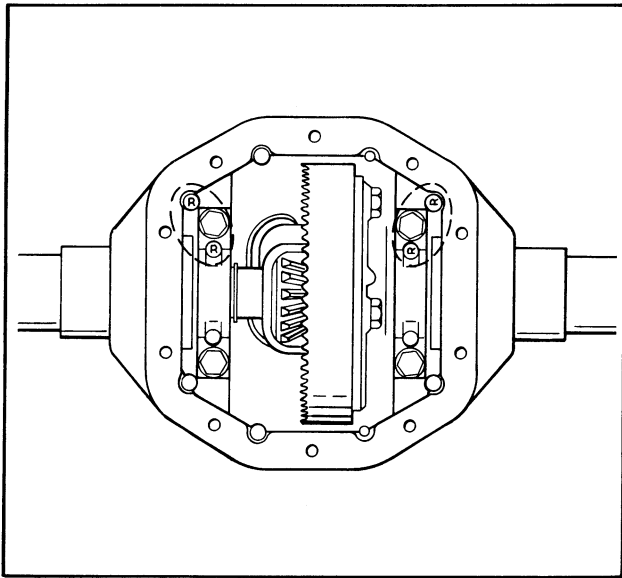

Figure 34 - Bearing Cap Identification
- e. Remove differential bearing cap bolts (38). Bearing caps are marked for location identification along with the carrier. See Figure 34. When reassembling, the caps must be installed in their original position. Remove bearing caps (37).